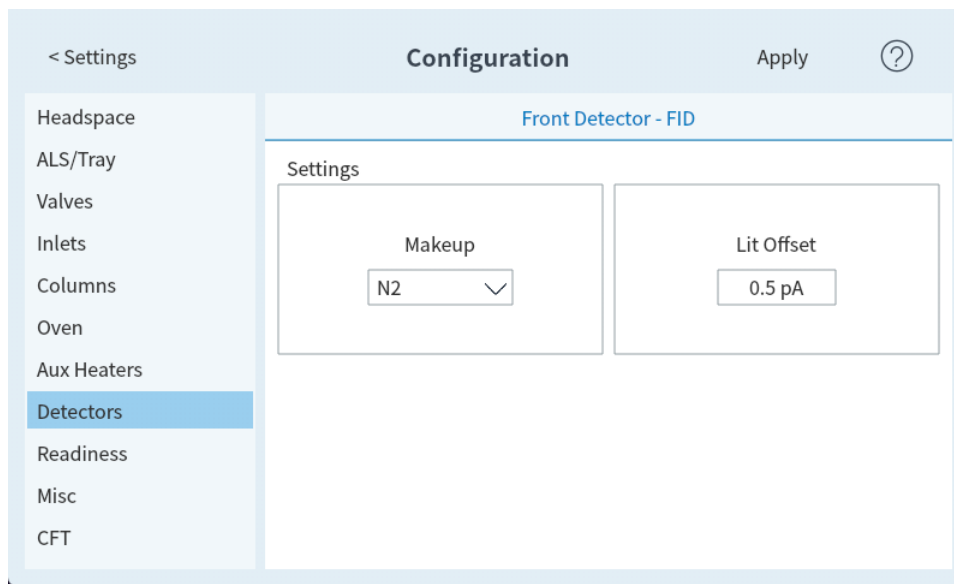

Figure 66. Detectors page
1. Select **Settings > Configuration > Detectors**, then select the tab for the detector to configure. See Figure 66.